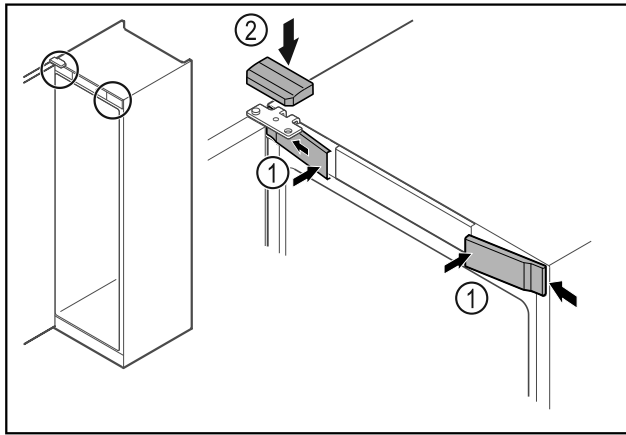

Fig. 63
- ▶ Hook in the front covers Fig. 63 (1) on the side and snap them into place.
- ▶ Snap on the top cover Fig. 63 (2) from above.